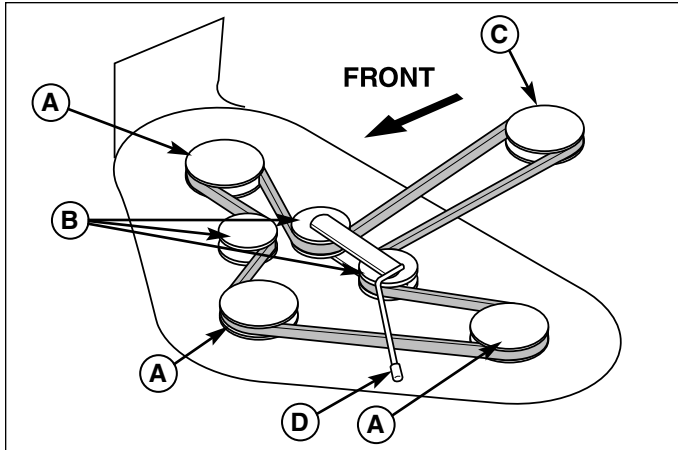
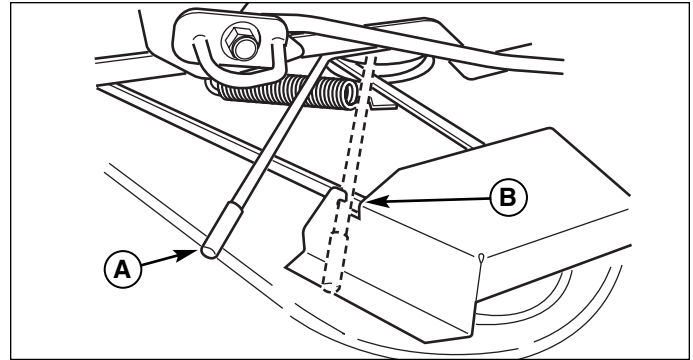

Figure 10. Mower Belt Routing
Figure 11. Release Belt Tension
3. Pull the lever (A, Figure 11) towards the rear of the machine to release tension on the mower belt. Secure the lever in the guard notch (B) and remove the mower belt from the PTO pulley (C, Figure 10).
7. Install the belt as shown in Figure 10.
8. Release tension from the tensioning idler pulley using the belt tension lever (A, Figure 11) and make sure the belt is seated properly in all pulleys.